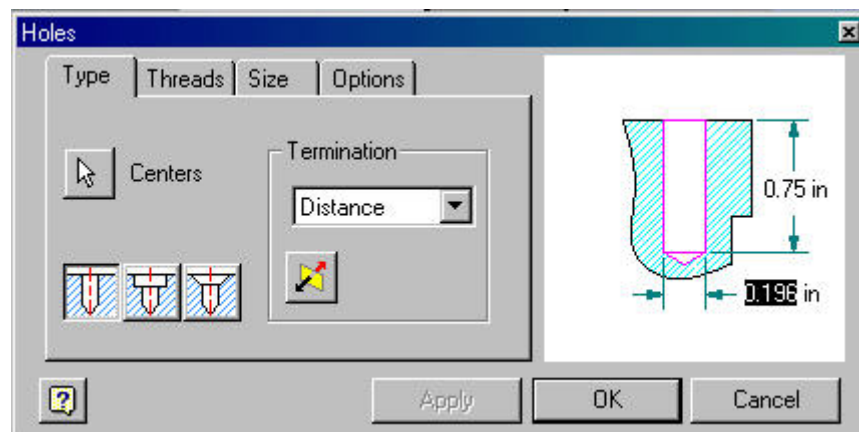

Figure 3
This tab allows you to select the hole type, termination, centers, and hole diameter as shown in Figure 3.
- Hole Diameter: allows you to change the diameter of the hole by selecting the dimension in the dialog box and typing in the desired dimension. See Figure 3.